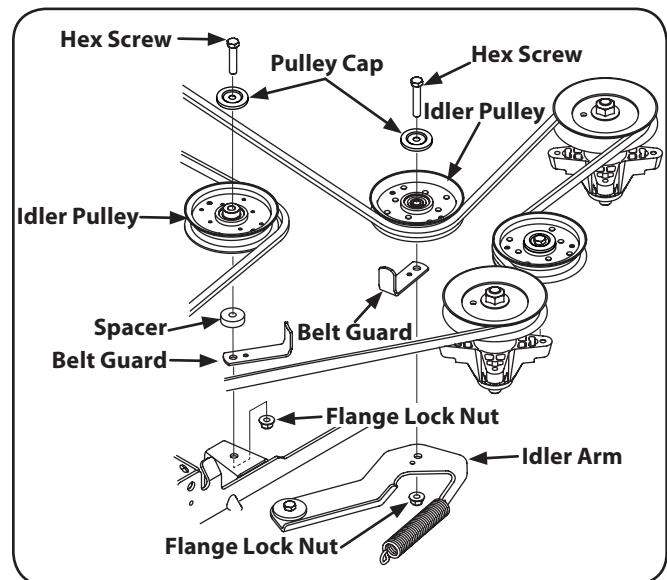

Figure 7-13
3. Remove the two idler pulleys by removing the hex screws and flange lock nuts that secure them to the deck and the idler arm. See Figure 7-13. Do not lose any of the hardware when removing the hex screw and flange lock nut.
6. Place the belt around the idler pulleys removed in step 3 with the "V" side facing in. Once in place, reinstall all the hardware and tighten the flange lock nut to secure the assembly. See Figure 7-13.